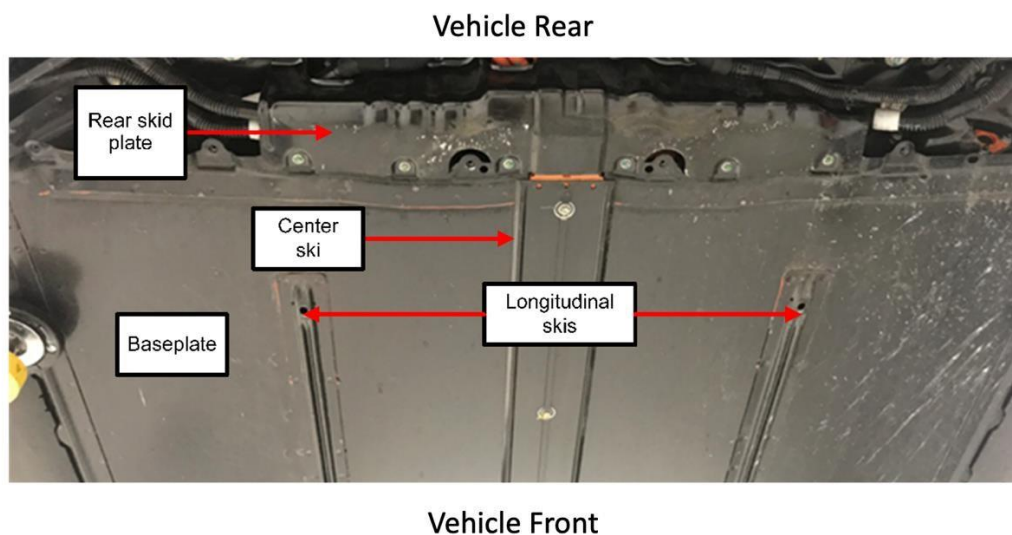

Figure 24 – Skid plate location
1. Visually inspect the rear skid plate for tears, dents, or breaches (Figure 24).